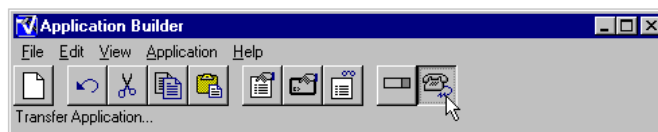
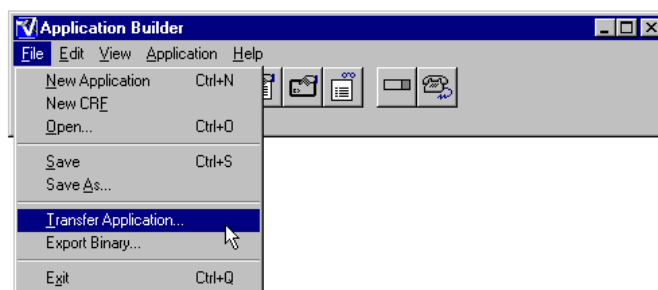

Figure 3-78 Application Builder Toolbar - Transfer Application
Figure 3-79 File Menu - Transfer Application Command
67. Click the **Transfer Application** button on the toolbar (Figure 3-78) or choose **Transfer Application** from the **File** menu (Figure 3-79).